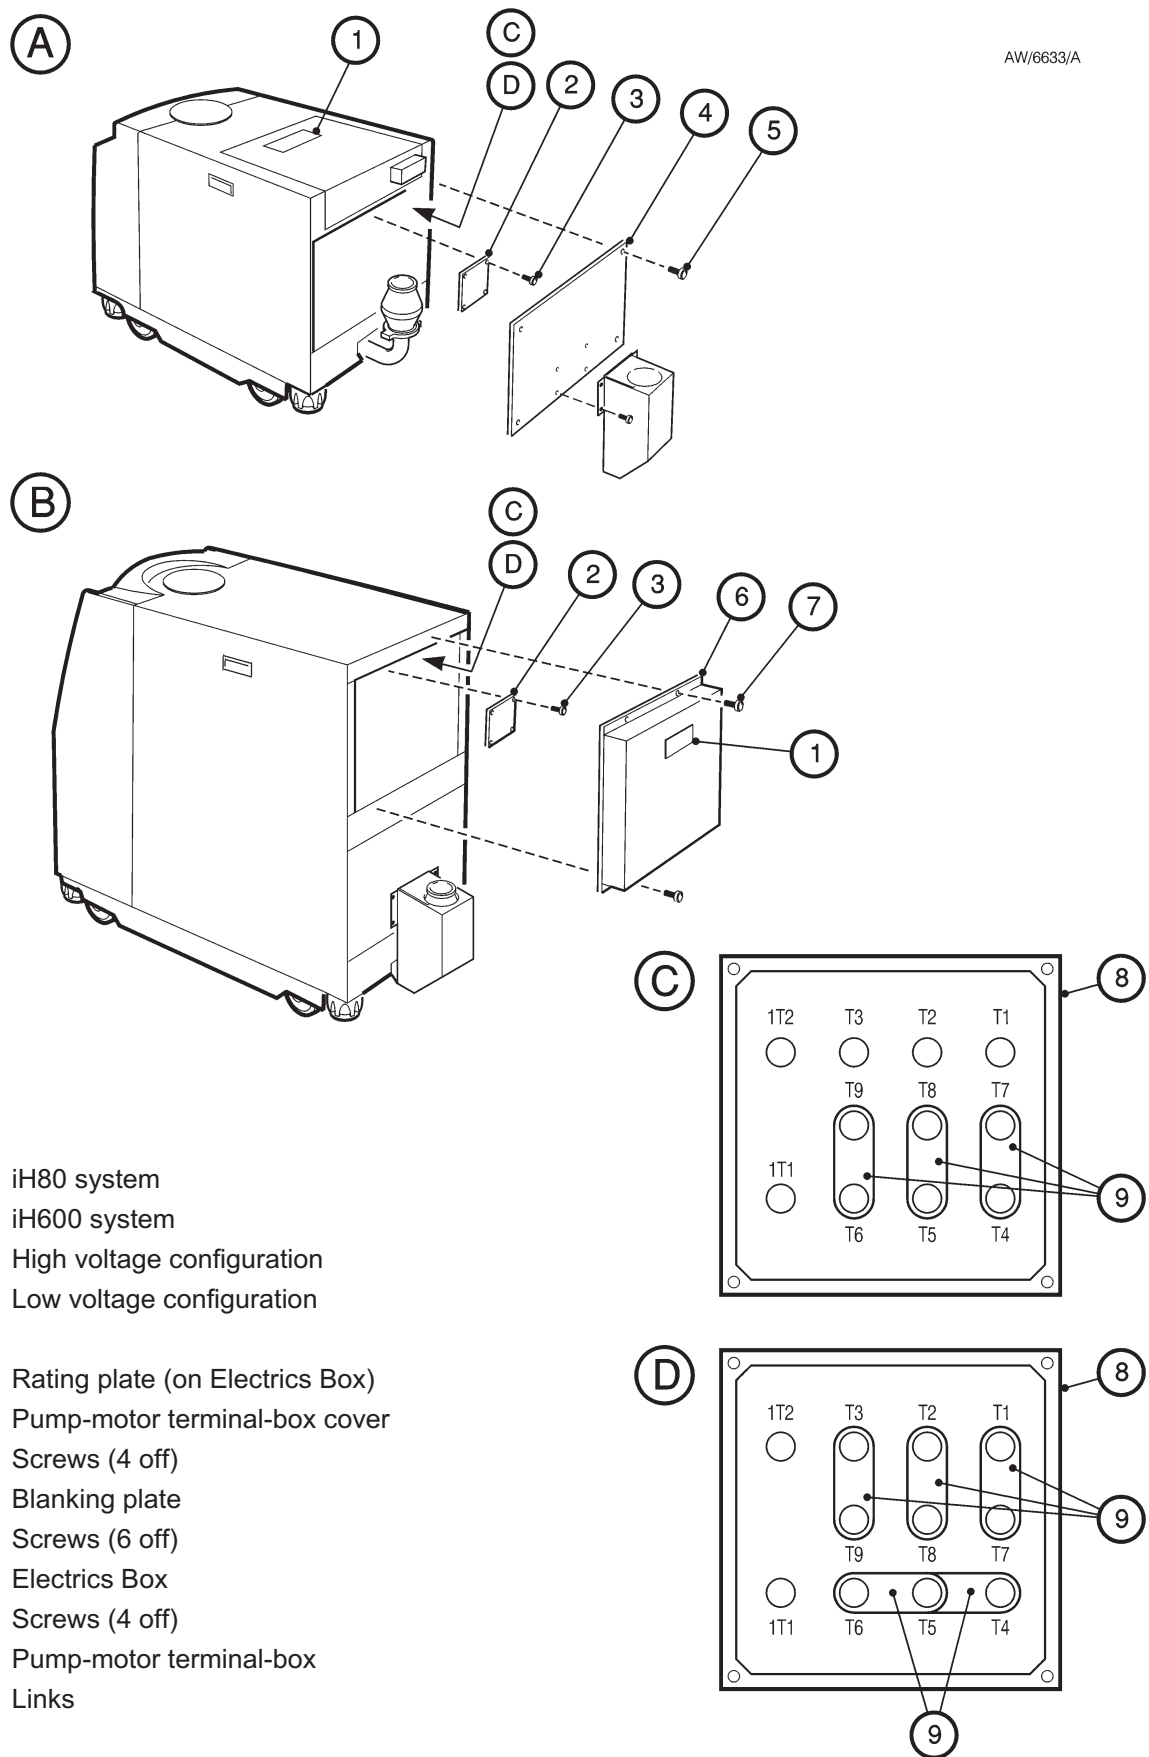

Figure 3-9 - Reconfigure the pump-motor terminal-boxes (iH80/iH600 only)
Note: You cannot reconfigure an iH1000 system. If you want to use an iH1000 system with a different electrical supply to that specified on the rating plate (Figure 3-9, item1), contact your supplier or BOC Edwards.
Your iH system will be supplied correctly configured for your electrical supply; the Item Number of the iH system (shown on the rating plate: Figure 3-9, item 1) specifies how the system is configured: refer to Section 2.13.
Note: You cannot reconfigure an iH1000 system. If you want to use an iH1000 system with a different electrical supply to that specified on the rating plate (Figure 3-9, item 1), contact your supplier or BOC Edwards.
1. Refer to Figure 3-9 detail A. Undo and remove the six screws (5) which secure the blanking plate (4) over the HCDP pump-motor, and remove the blanking plate.
2. Undo and remove the four screws (3) which secure the cover (2) to the HCDP pump-motor terminal-box.
3. Look at the links in the terminal-box (8):
- For high voltage operation (380-415 V at 50 Hz or 460 V at 60 Hz), ensure that the links (9) are in the positions shown in detail C.
- For low voltage operation (200-208 V at 50 Hz or 200-230 V at 60 Hz), ensure that the links (9) are in the positions shown in detail D.
4. Refer to detail A. Refit the cover (2) to the HCDP pump-motor terminal-box and secure with the four screws (3).
5. Refit the blanking plate (4) and secure with the six screws (5).
7. Refer to detail B. Undo and remove the four screws (7) which secure the Electrics Box (6) to the rear of the iH system, then carefully lower and support the Module. Ensure that you do not disconnect, break or damage any of the cables connected to the Module.